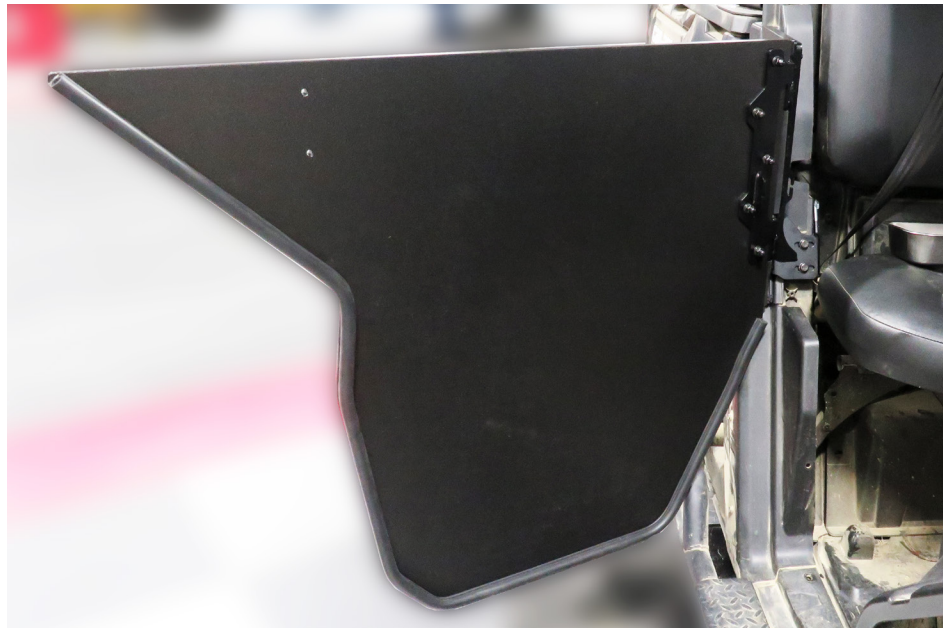

Fig.13
13. Once the **Door Skin** is installed, open and shut it to see that it fits properly when in the closed position without the latch installed yet. Make any adjustments at this point if needed. Yours should look like the one in **Fig.13**.